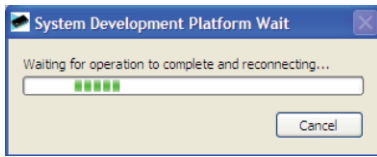

Figure 3. Connection Message
3. Click **Start > All Programs > Analog Devices > AD5592R > AD5592R Evaluation Software**. When the software connects to the evaluation board, the message shown in Figure 3 displays.